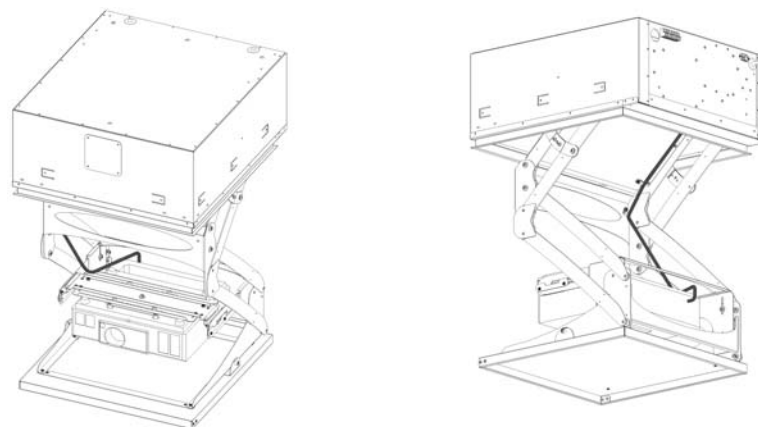

Figure 10. Cable Routing Example
2. Route and secure all electrical and video cables using ties and eyelets provided (see Figure 10), leaving some slack between securing points.